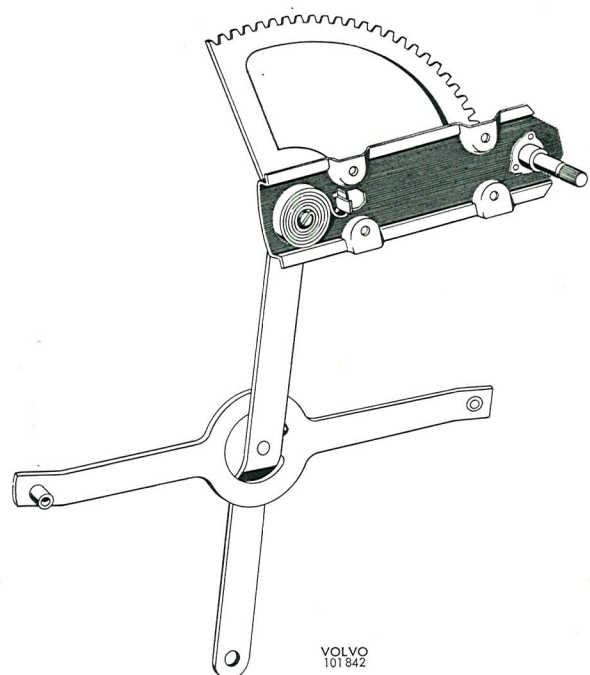

Fig. 8-14. Winding mechanism
6. Remove the attaching screws for the window winder, see Fig. 8-7, and remove it from the door, see Fig. 8-14.